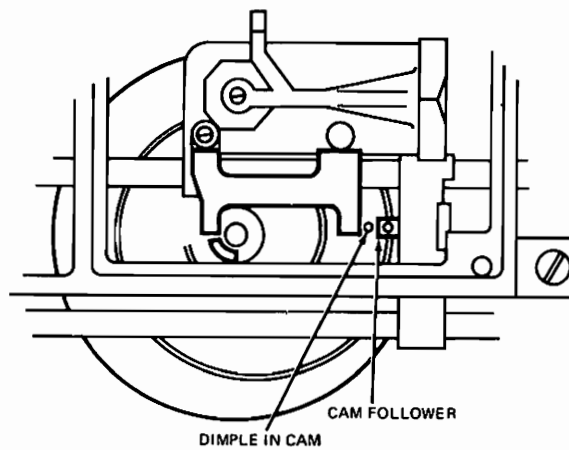

FIGURE 2 TRACK ZERO POSITION
- a. Rotate head actuator cam until the cam follower is opposite the track 00 dimple on the cam (Ref. Figure 2).